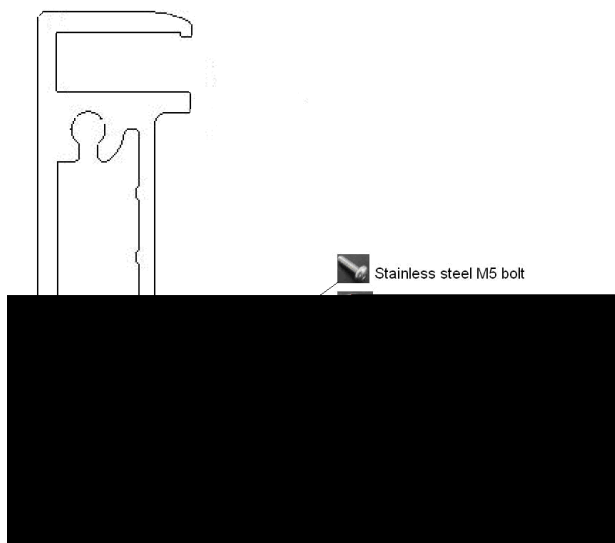

Fig. 18 Grounding the aluminum frame with copper wire
The PV modules are designed with an anodised, corrosion-resistant aluminum alloy frame as a rigid support. To ensure safety and to avoid lightning strikes and electrostatic damage to the PV modules, the PV module frame must be earthed. The earthing device must be in full contact with the interior of the aluminum alloy of the frame, penetrating the surface oxide film. The following is the specific grounding method, as shown in Fig. 18.
- Use the marked 5.5 mm grounding holes to ground the anodized frame. Use one M5 nut, two M5 cut washers, one M5 plain washer, one M5 spring washer, and one M5 bolt and the copper wire. All nuts, bolts, and washers shall be of type M5 and made of stainless steel (Fig. 18).